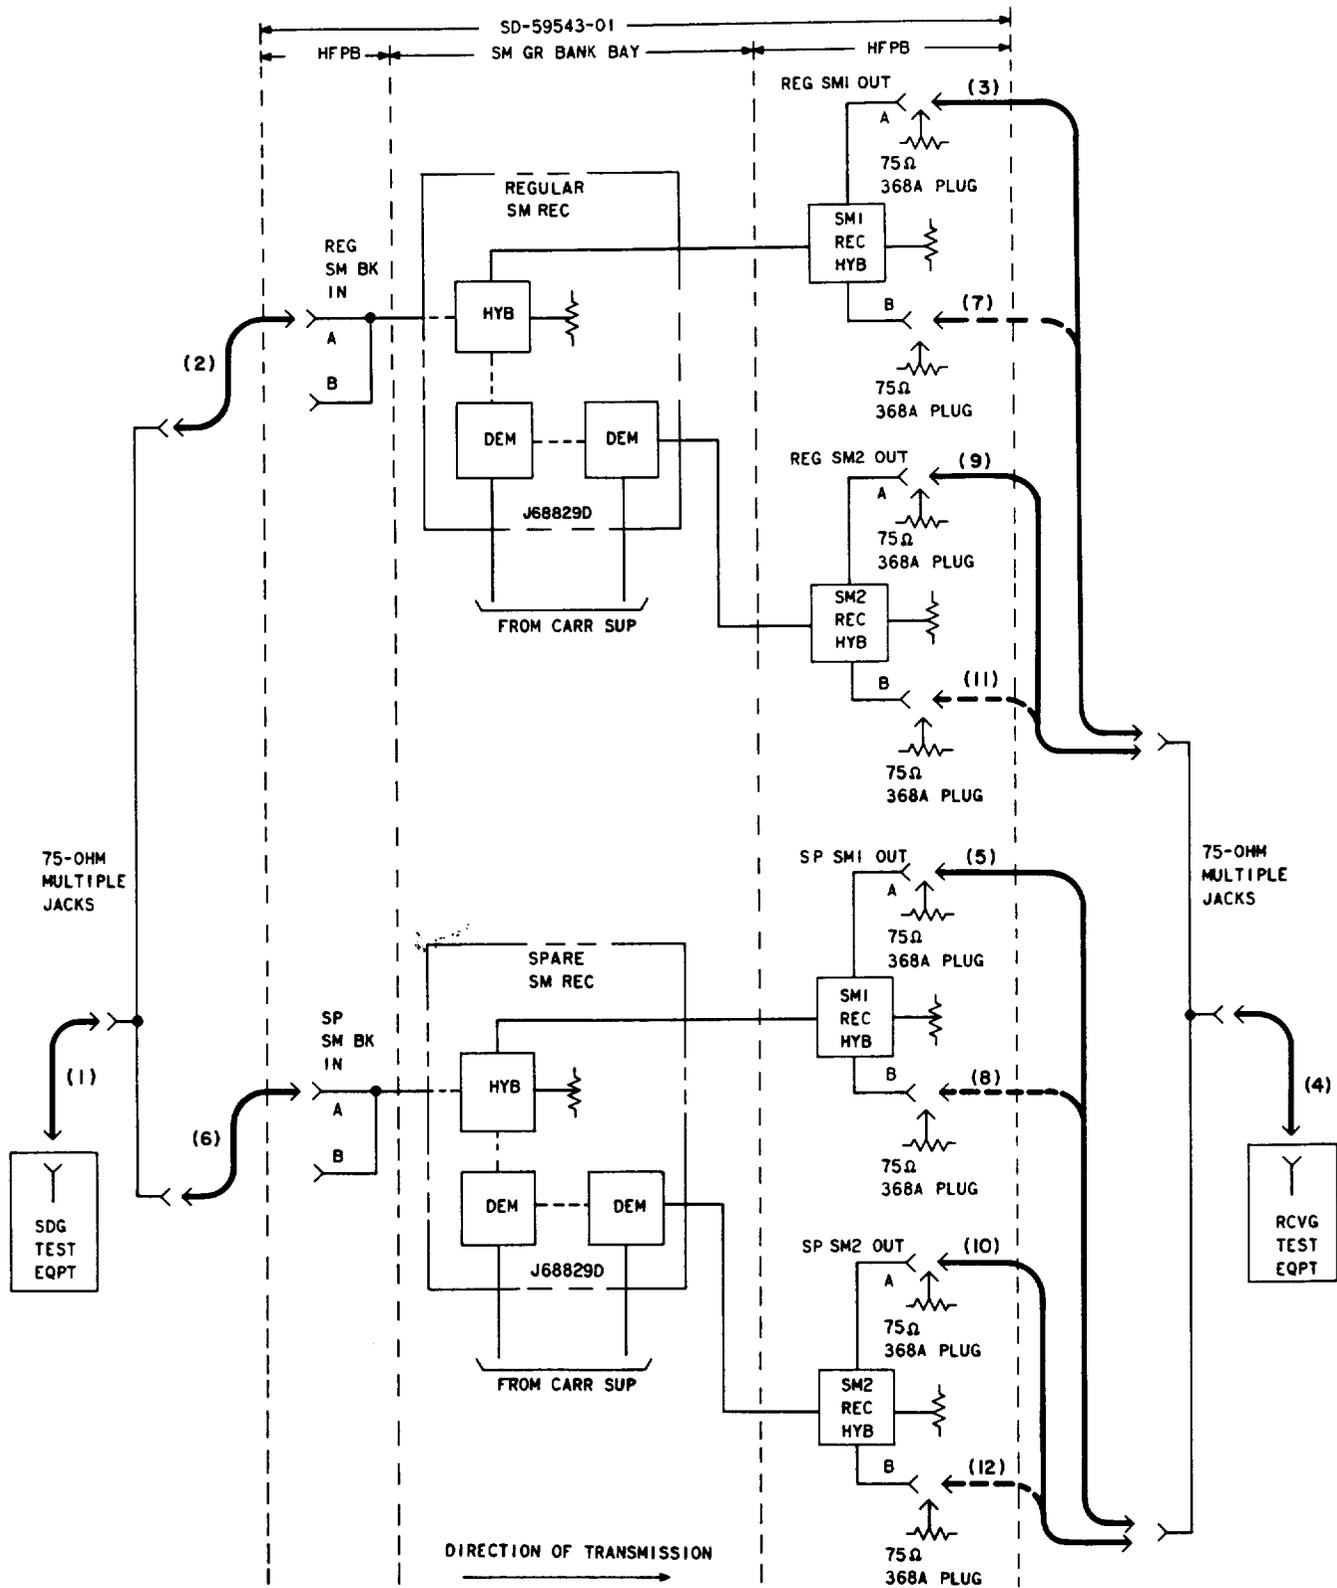

Fig. 1—Receiving Submaster Group Bank Circuits—Turnover Tests
<p>Caution: ♦ This test requires that the regular and spare submaster group equipment panels contain like amplifiers. A loss of level may occur when patches are made between a panel containing a vacuum-tube amplifier and one equipped with solid-state amplifiers.♦</p> <p>Note: If the requirements in this test cannot be met, check the carrier supply and the hybrid coils within the regular and spare receiving submaster group bank circuits for wiring turnover.</p> <p>SUBMASTER 1 GROUP BANK</p> <p>1 Verify that the equipment to be tested is out of service.</p> <p>2 Prepare the RTE (receiving test equipment) for a 75-ohm terminated measurement of 1500 kHz at -21 dBm.</p> <p>3 Prepare the STE (sending test equipment) for an output of 1500 kHz at -14 dBm.</p> <p>4 Make patches (1), (2), (3), and (4) in Fig. 1.</p> <p>5 Insert 75-ohm 368A plugs in the REG SM 1 OUT B and SP SM 1 OUT B jacks.</p> <p>6 Measure and record the level of the 1500-kHz signal at the REG SM 1 OUT A jack.</p> <p>Requirement: Approximately -21 dBm.</p> <p>7 Make patches (5) and (6) in Fig. 1.</p> <p>8 Measure the 1500-kHz level of the multiplied submaster 1 group bank circuits.</p> <p>Requirement: A decrease of not more than 2.5 dB from the value recorded in Step 6.</p>
9	Remove patches (3), (5), and (6) in Fig. 1.
12	Make patch (7) in Fig. 1.
14	Make patches (6) and (8) in Fig. 1.
16	Remove patches (6), (7), and (8) in Fig. 1.
20	Make patch (9) in Fig. 1.
23	Make patches (6) and (10) in Fig. 1.
25	Remove patches (6), (9), and (10) in Fig. 1.
28	Make patch (11) in Fig. 1.
30	Make patches (6) and (12) in Fig. 1.